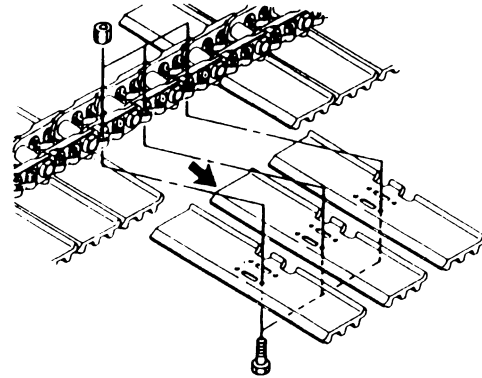

Fig 21.
- 3 Remove the shoe plate attached to the worn or damaged link and a further shoe plate on either side → Fig 21. \(□ J-8\), see also → Replacing a Shoe Plate \(□ J-7\).